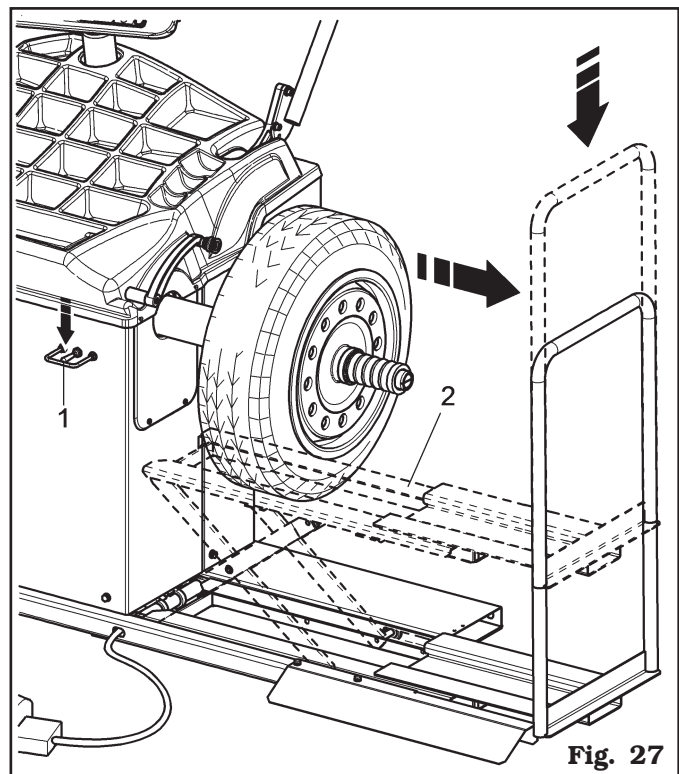

Fig. 27
8. Lower the lifting device control (**Fig. 27 ref. 1**) and then lower the footboard (**Fig. 27 ref. 2**).